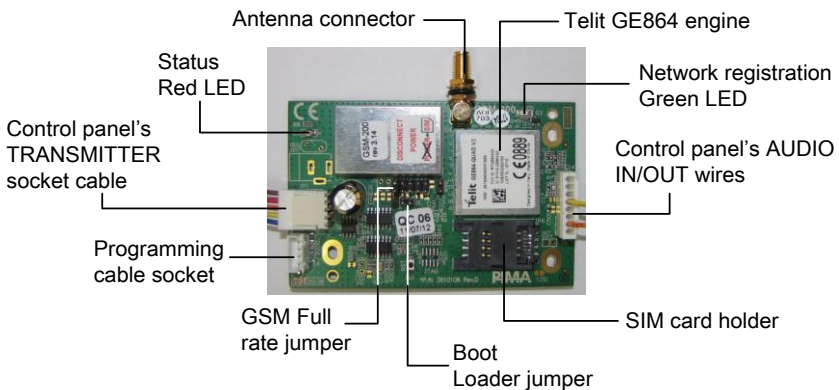

Figure 1. The module's PCB
- b. Connect the RJ-11/Molex programming cable (P/N 3411078) between the LCL-11A and the GSM-200 programming socket. See Figure 1 and Figure 7.